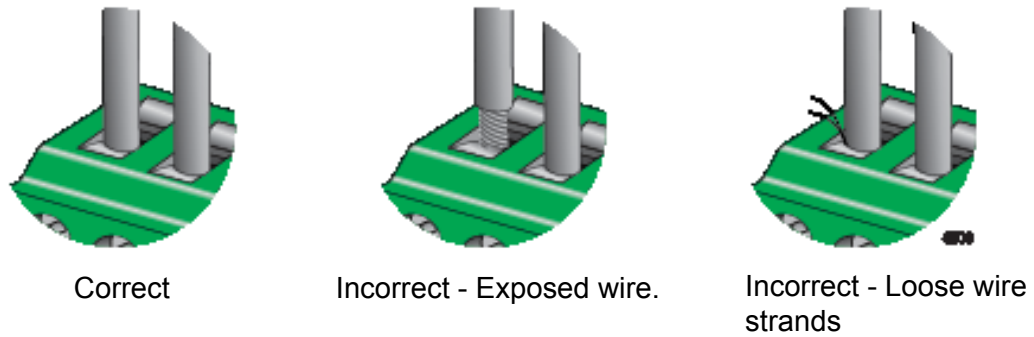

Figure 50. Verifying the Wire Installation
6. After attaching the wires to the connector, verify that there are no exposed wires or loose wire strands. Refer to Figure 50 on page 107.